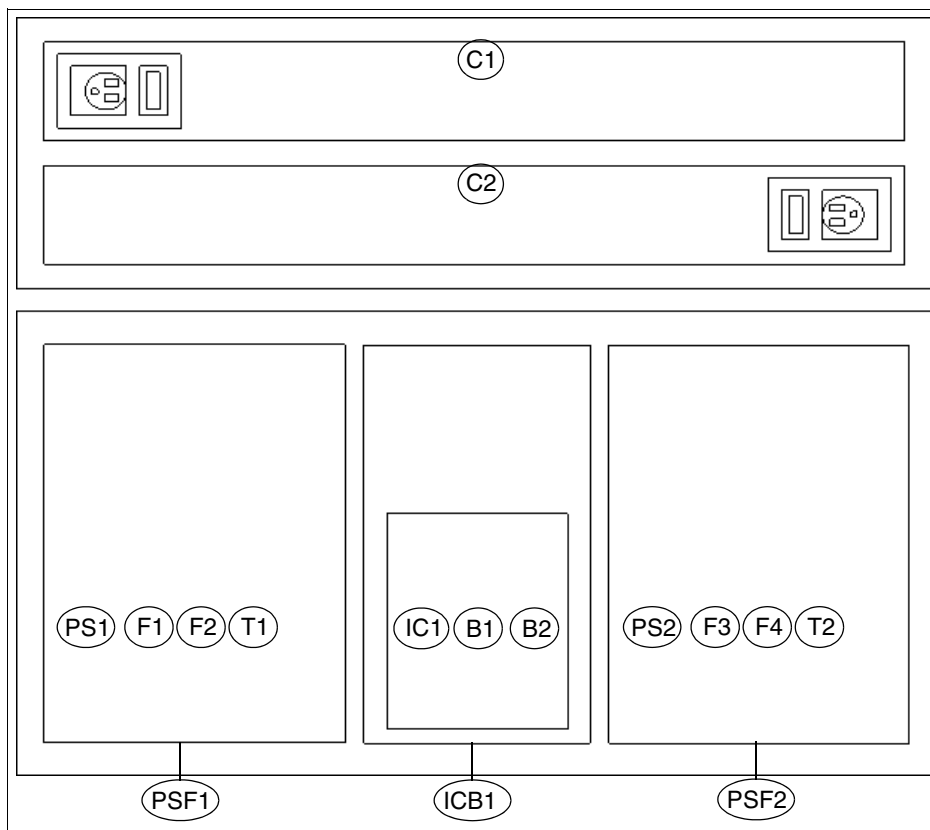

Figure 2-32 DS5000 component locations
This section will show all DS5000 storage subsystem component locations as displayed in Storage Manager (SM) software. Figure 2-32 shows all the DS5000 storage subsystem component locations and Table 2-5 on page 56 describes how they relate to locations shown in Storage Manager software.